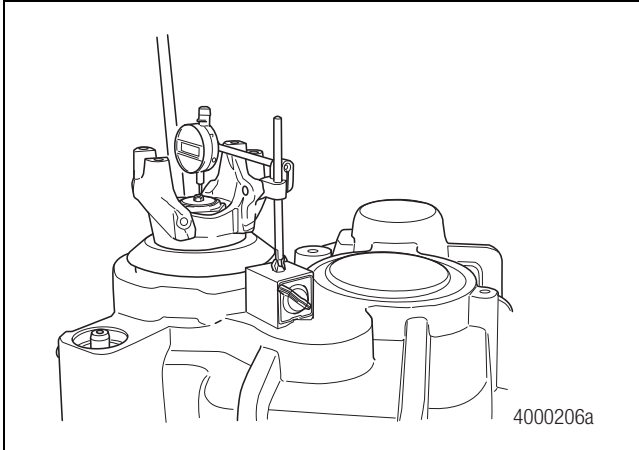

Figure 6.28
3. Use a suitable dial indicator setup and pry UP on the yoke to determine bearing end play. End play should be 0.002-0.004-inch (0.051-0.102 mm). To obtain a consistent reading, perform this operation two or three times. Record the reading for this shaft. Figure 6.28.